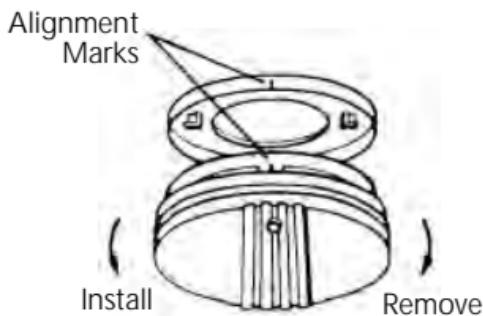

FIGURE 7
6. Alignment marks are provided on the edge of the trim plate and the alarm. After installing the mounting plate, place the alarm on the mounting plate with the alignment marks lined up. Twist the alarm in the direction indicated by the "ON" arrow on the alarm cover (see Figure 7) until it locks in place.
To replace the battery, remove the alarm from the mounting plate by rotating the alarm in the direction of the "OFF" arrow on the cover (see Figure 7).